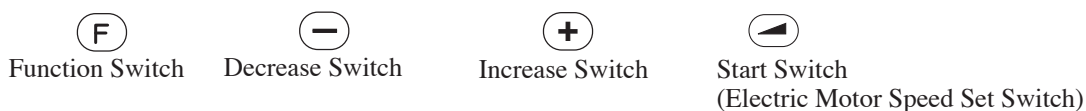

Fig.3-15 Function Switch
⑫ Function Switch (Fig.3-15) **E**